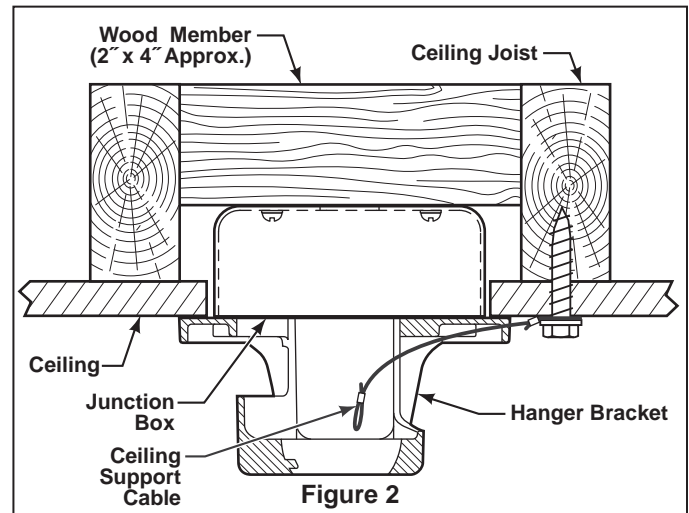

Figure 2
6. While pulling up on the hanger ball, securely tighten the two 3/16-24 x 3/8" setscrews in the downrod support. Slide the Motor Coupling Cover down. (Figures 2 & 3)
1. Using the $\frac{3}{8}$ " x 2" lag bolt and flat washer, attach safety cable to ceiling joist or wood structural member. The lag bolt will pass through the flat washer, safety cable loop, and into the building structure (Figure 2). You will first drill a $\frac{1}{4}$ " pilot hole into the building structure to prevent splitting or cracking.
NOTE: Ceiling support cable cannot be secured to junction box only, it must be directly secured to ceiling joist or structural member using the $\frac{3}{8}$ " x 2" lag bolt and flat washer. (Figure 2)
4. Tighten screws with a screwdriver provided, don't over-tighten. (Figure 2)